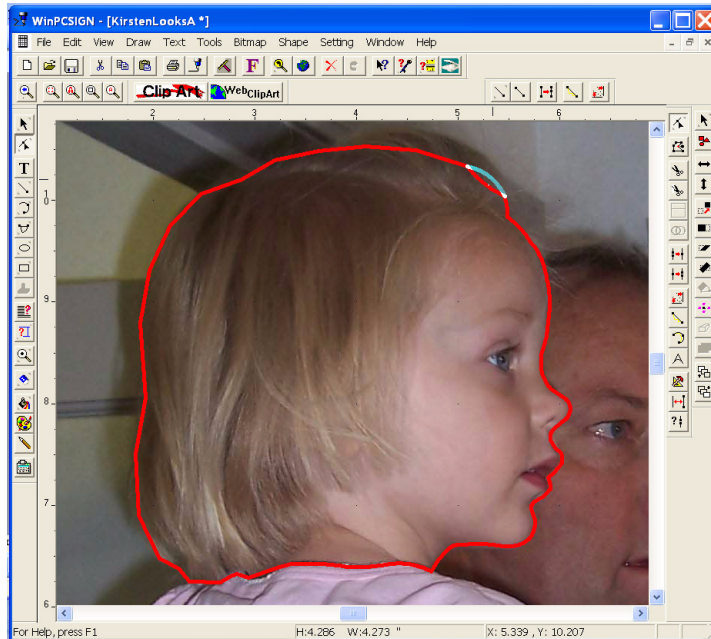

Figure 157
- 1 Click the **Move Point** tool and begin to shape the lines to fit the image. See figure 157.